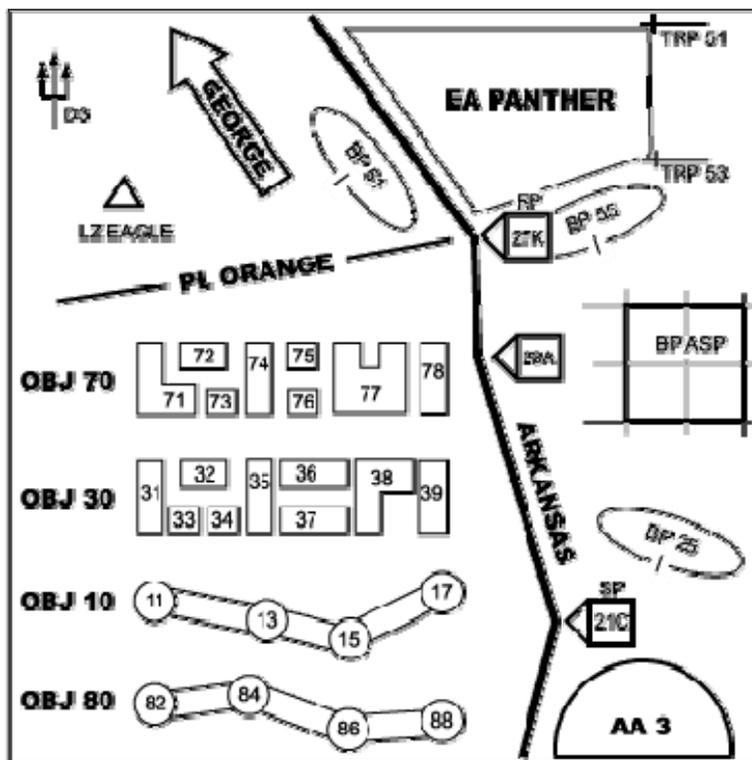

Figure 1-1. Sample Overlay.
1. Ground Control Measures. *See Figure 1-1.*